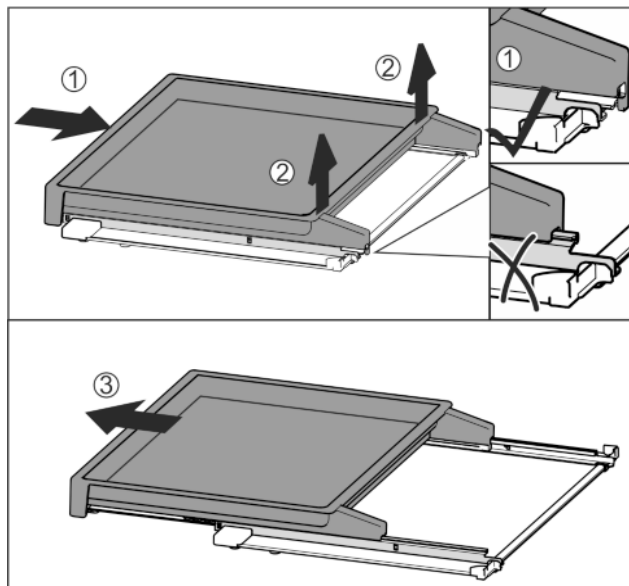

Fig. 37
- Slide the pull-out board all the way in Fig. 37 (1).
- Release the clips at the back Fig. 37 (2).
- Remove the pull-out board from the front Fig. 37 (3).